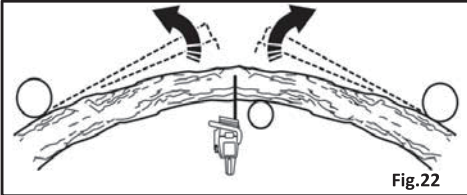

Fig.22
- Position yourself so that you will be clear of the tree or branch when the tension is released. (see figure 22)